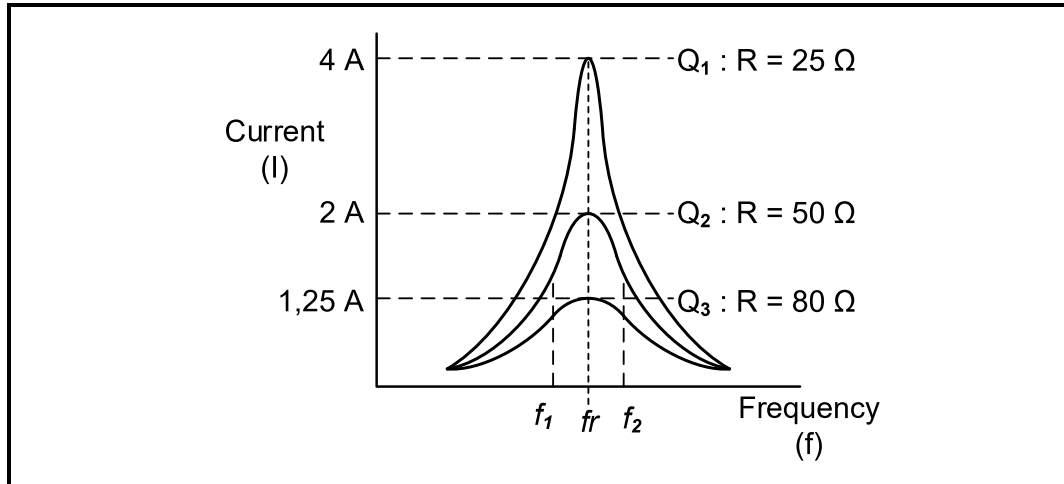

FIGURE 3.4: FREQUENCY RESPONSE
- 3.4 FIGURE 3.4 below shows the current vs frequency response curves of a series resonant circuit with a variable resistor. The inductive reactance of the circuit is $2\,000\,\Omega$ at resonance and each response curve is for a different resistance value.